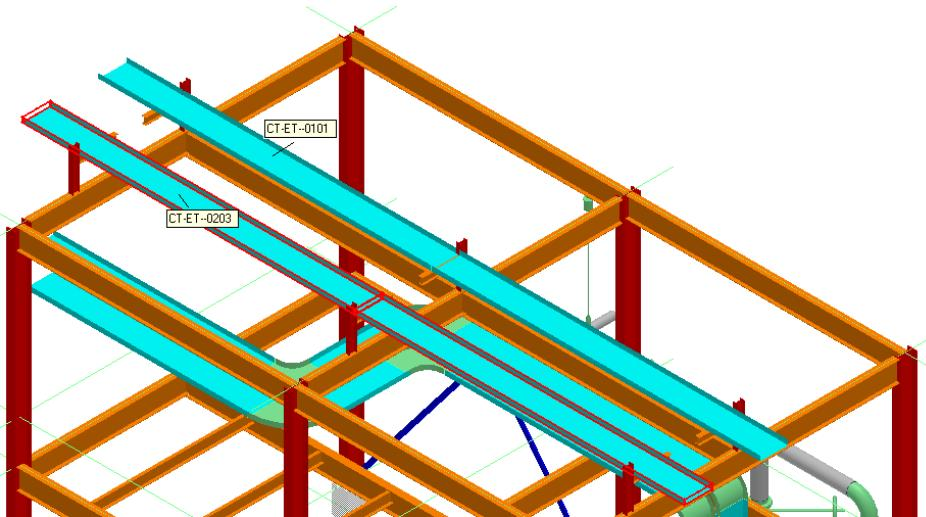

Figure 12: Selected Cableways
11. Select the **Cableways** from the graphic view that you need to copy, as shown in Figure 12.